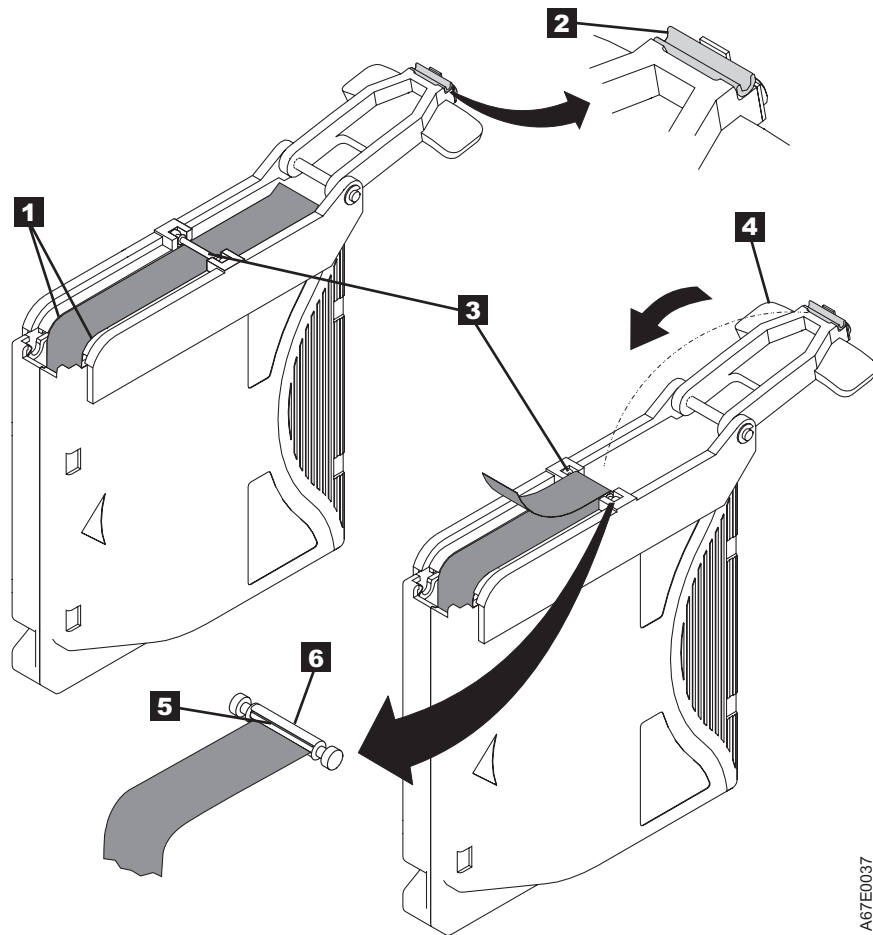

Figure 25. Attaching the leader pin to the tape
7. Position the tape in the alignment groove of the leader pin attach tool (see **1** in Figure 25).
8. Place a new C-clip into the retention groove **2** (Figure 25) on the leader pin attachment tool and make sure that the clip's open side faces up.
9. Place the leader pin (from step 6 on page 65) into the cavity **3** (Figure 25) of the leader pin attach tool.
10. Fold the tape over the leader pin and hold it with your fingers (see Figure 25).